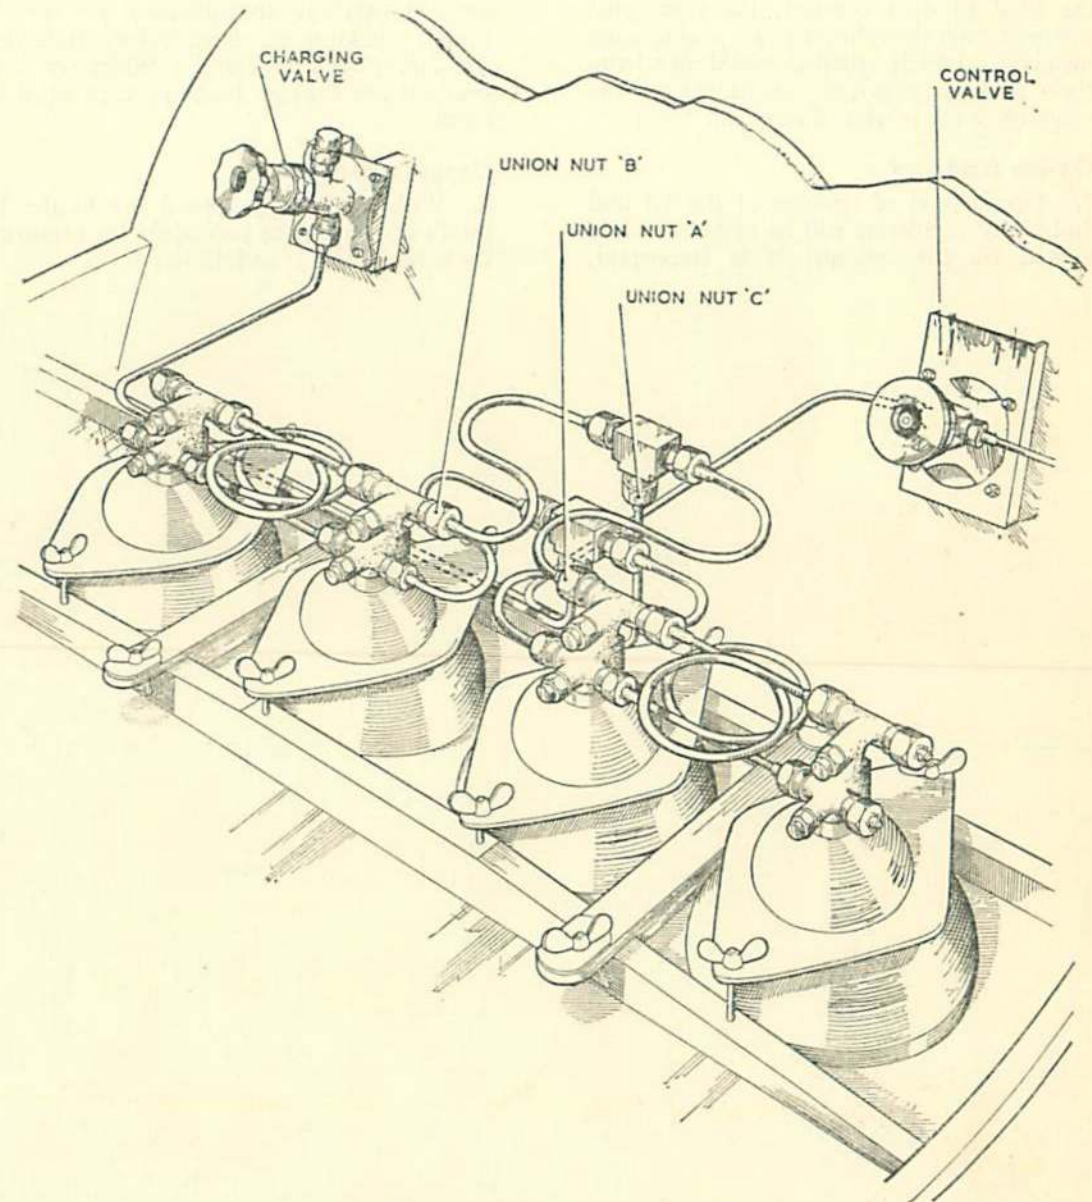

Fig. 3 Pipe connections on oxygen cylinders
6. When any cylinder has to be removed, the pressure must first be released and the oxygen allowed to escape *slowly* until the contents gauge on the 1st pilot's regulator registers *zero*; it should be noted that the control valve on this regulator must be turned ON to obtain a reading on the gauge. If one or both of the port cylinders have to be removed, union nut 'A' (fig. 3) should be slackened to release the pressure and, similarly, union nut 'B' should be loosened before removing either one or both of the